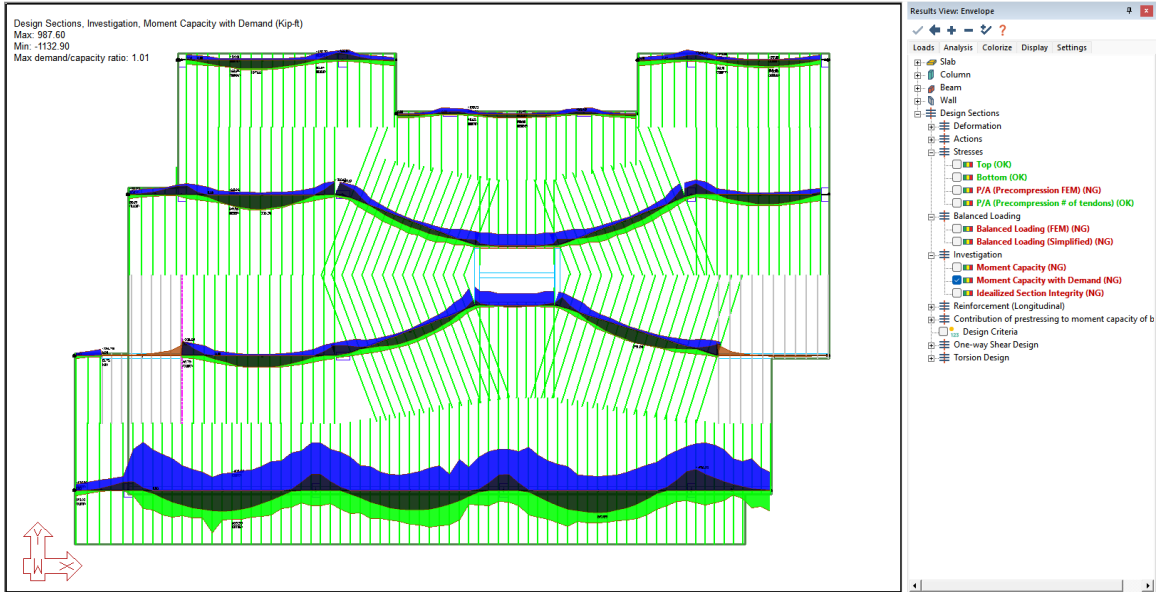

FIGURE 9-120
- Check the box next to **Moment Capacity with Demand** by clicking on it. The user should now see the moment capacity with demand curve along the support line as shown in **FIGURE 9-120**.